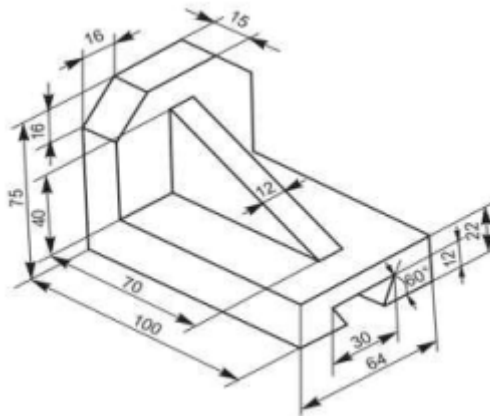

Figure 1
1. Create a three-dimensional illustration based on the diagram provided in Figure 1.